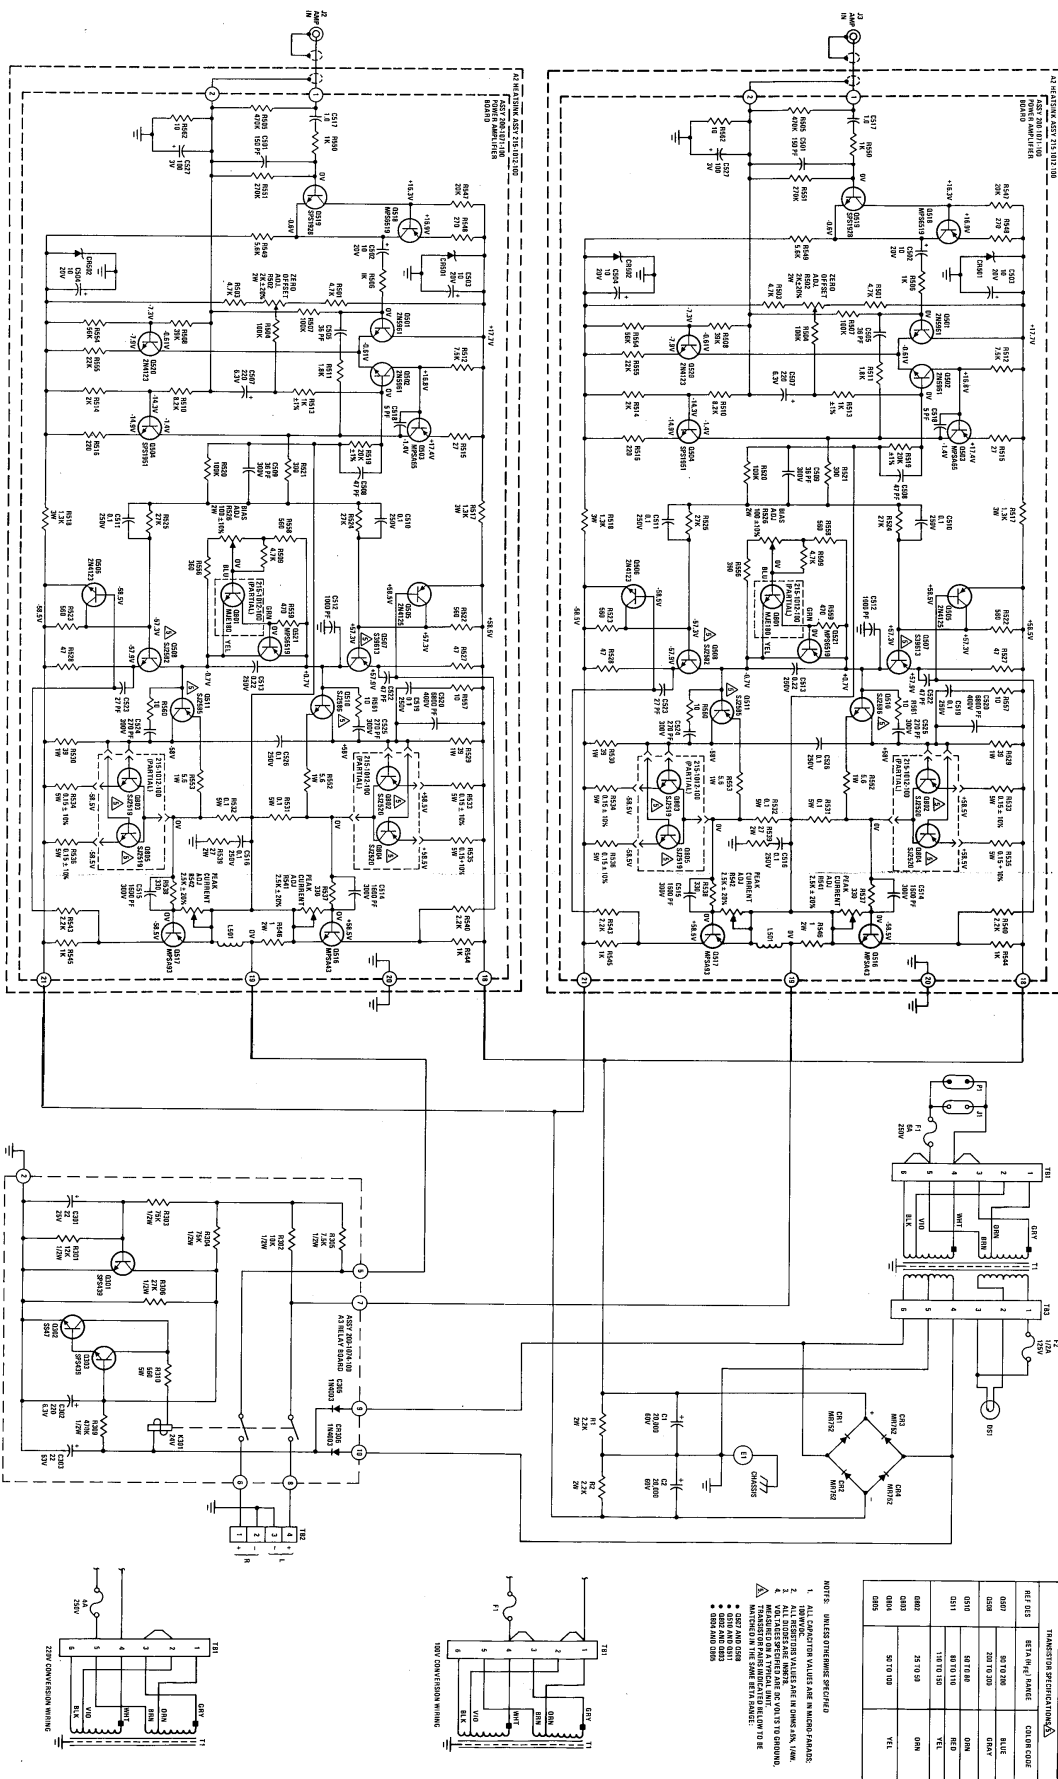

FIGURE 11. Model 240 Schematic
* For beta range matching requirements, see transistor specification chart on unit schematic (figure 11).